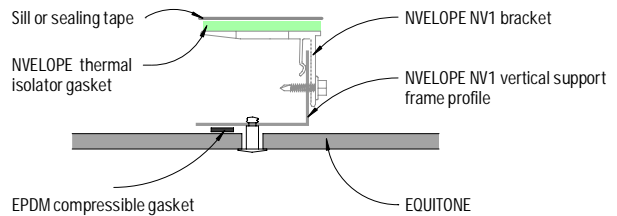

Figure 8: Intermediate panel fixings connection
- 2) EPDM compressible gasket strip is applied away from the panel hole, and usually to one side of the support frame profile as shown in Figure 8.